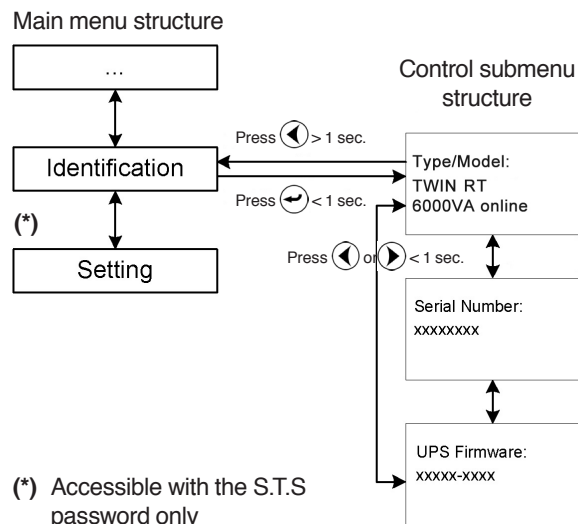

Fig. 39. Identification submenu screens.
- When pressing over the key  for less than 1 sec. from "Identification" submenu, it is accessed to the identification structure (see figure 39).